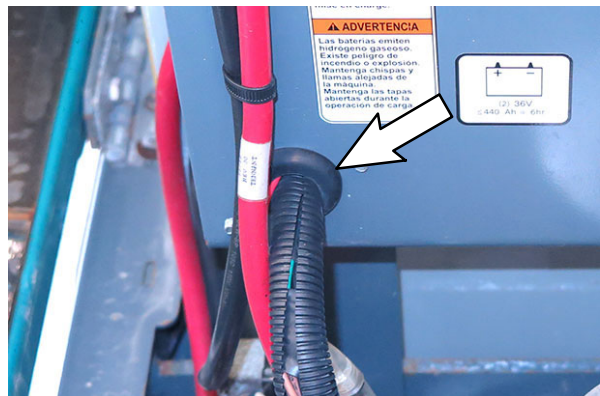

FIG. 16
28. Battery Machines Only: Route the blue spotlight harness (6) ground lead through the hole in the electrical box and into the interior of the electrical box. (Fig. 16)